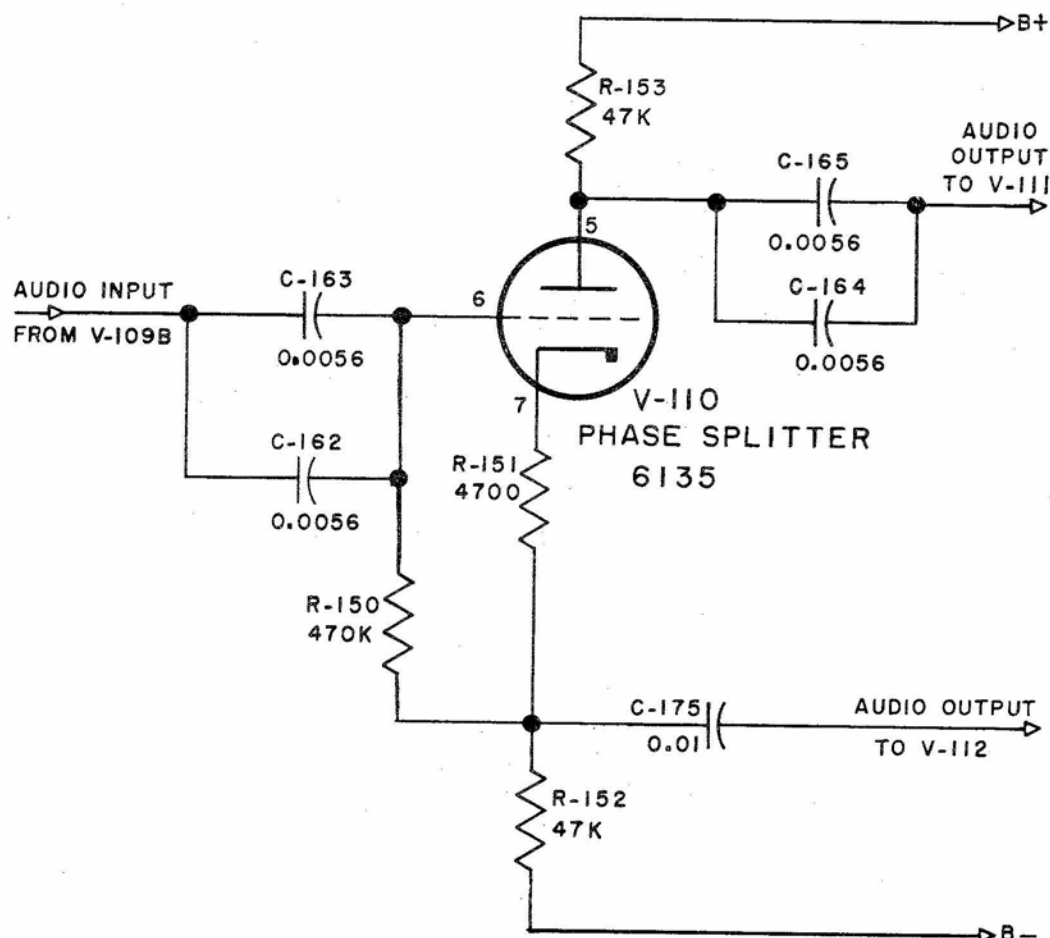

Figure 2-9. Phase Splitter V-110, Simplified Schematic Diagram
j. PHASE SPLITTER V-110 CIRCUIT DETAILS. (See Figure 2-9).—In order to provide push-pull audio output from the receiver the audio signal must be separated into two signals which are identical in shape and amplitude but opposite in phase. This is the function of phase splitter V-110, a type 6135 triode.